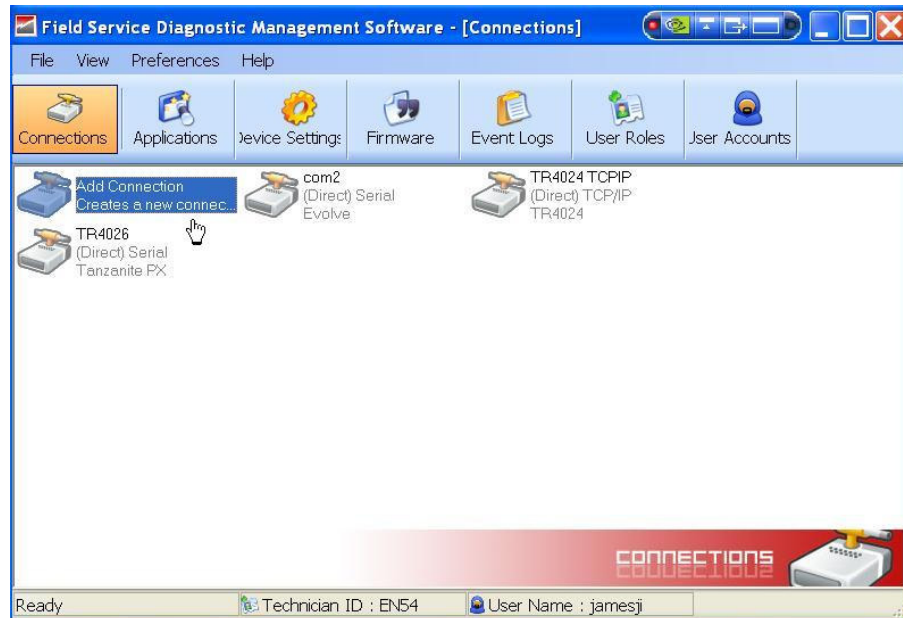

Figure 21 Add a Connection
4. DMS will bring up and connections windows as shown as in Figure 21 Add a Connection. Then double click the icon named “ **Add Connection Creates a new connection**”